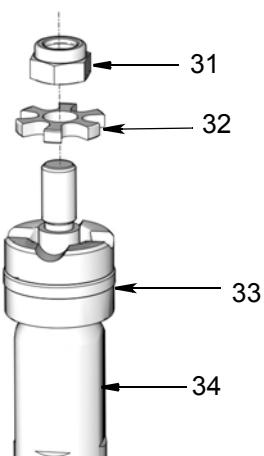

FIG. 37
14. Install star washer (32) and lock nut (31) on piston rod (34) as shown in FIG. 37.
15. Use a wrench to tighten lock nut (31).
**16. Outlet Tube O-ring (13) and Pump Cylinder O-ring (9)**